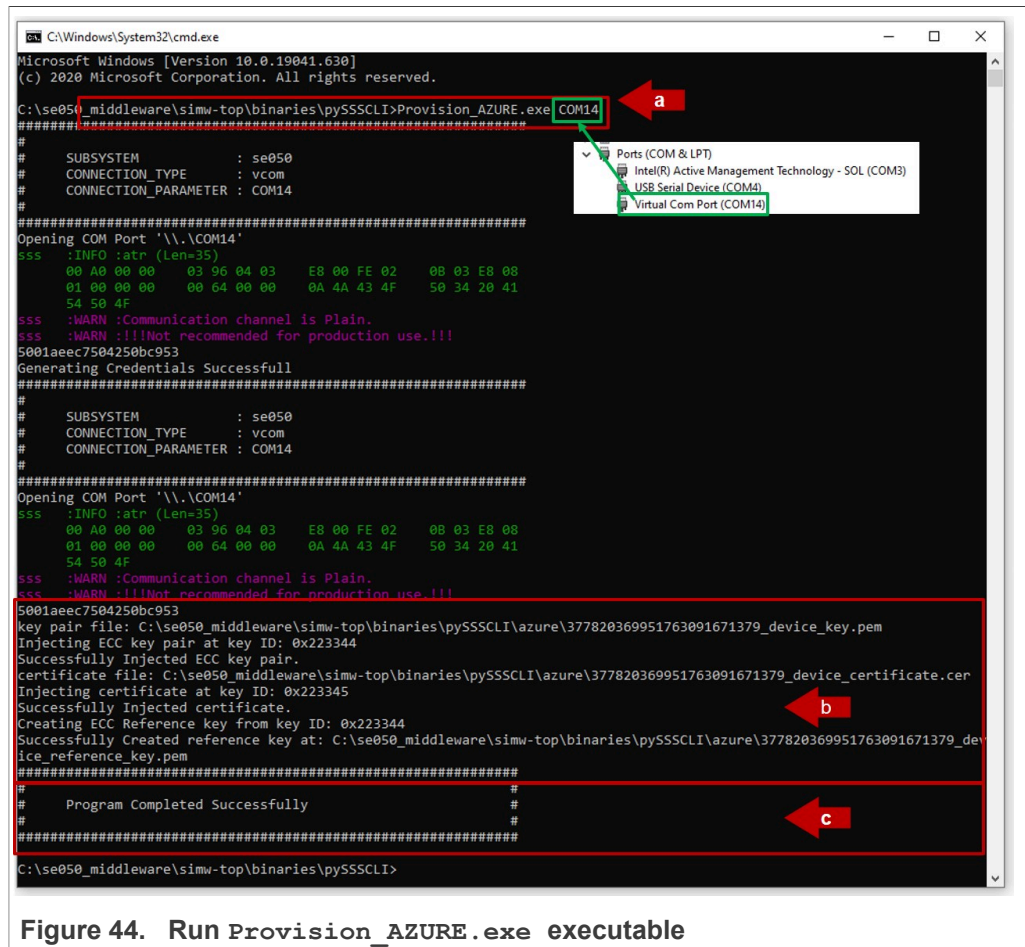

Figure 44. Run Provision\_AZURE.exe executable
- 4. Use the Provision\_AZURE.exe executable to generate and inject keys into your EdgeLock SE05x. Go to the folder simw-top\binaries\pySSCLI and follow the steps shown in Figure 44: